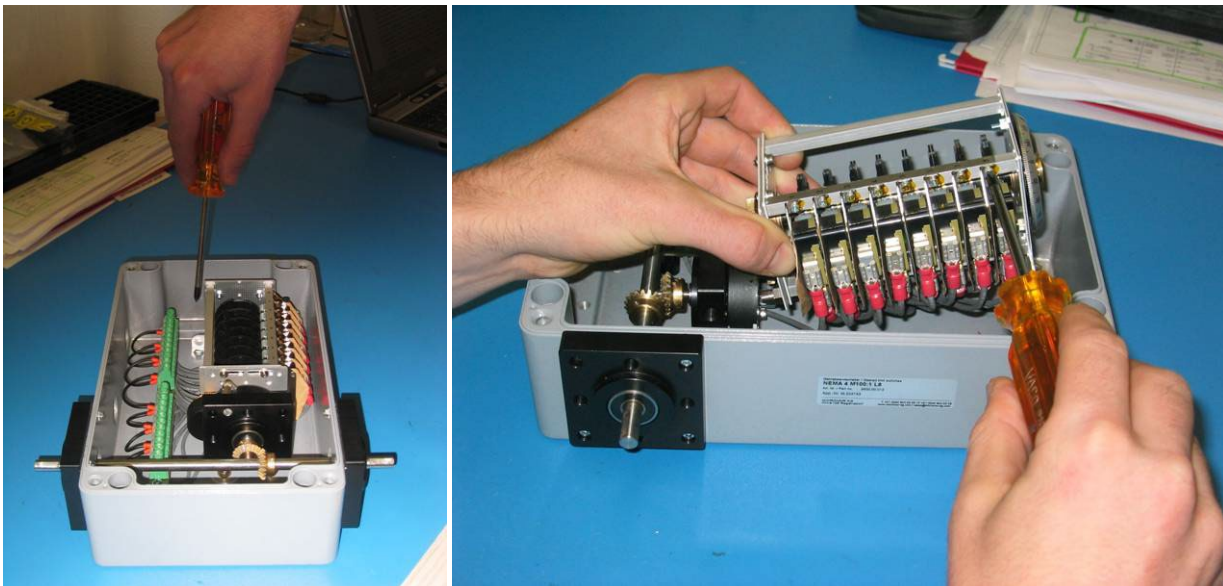

Figure 12. How to replace Microswitch
To replace a microswitch, follow these steps while consulting **Figure 12**:
2. Using a slotted screwdriver (consult **Figure 12**), loosen (but do not remove) the two screws holding the rear mounting flange of the cam switch subassembly. To gain access to the microswitches, grab subassembly and pull back to disengage from the two mounting screws loosen in the previous step. This will expose the two gears – one that is attached to the gear box and the other attached to the cam switch shaft.